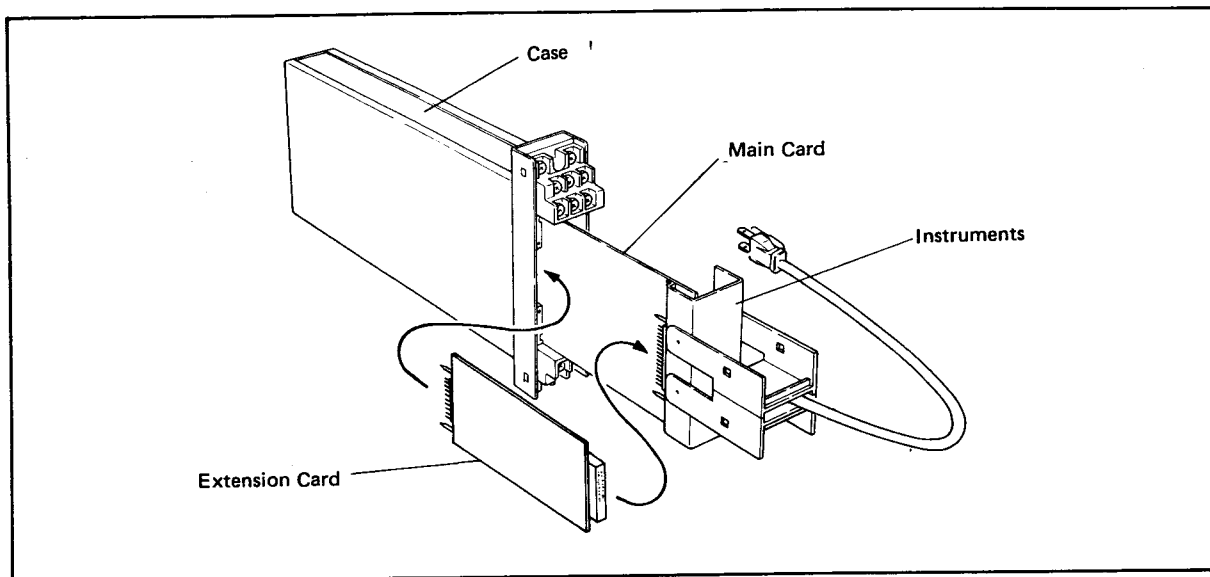

Figure 7-3. Connection of Extension Card
- (1) Withdraw the internal assembly from the case and connect the extension card (in Model SSKD YewSeries service kit) between the internal assembly and the case. (See Figure 7-3.)